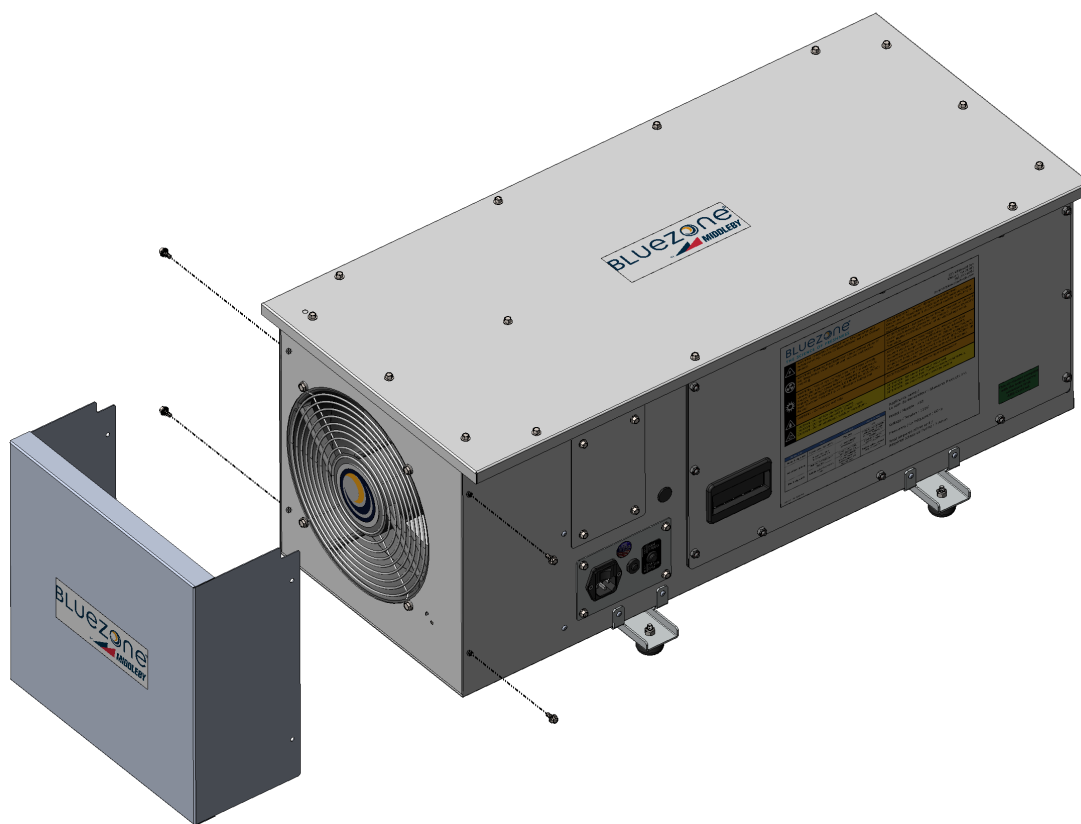

Figure 20: Screw Removal for Muffler Installation
1. Remove (4) 1/4" drive screws from the fan end of the Bluezone Model 450 as shown in Figure 20